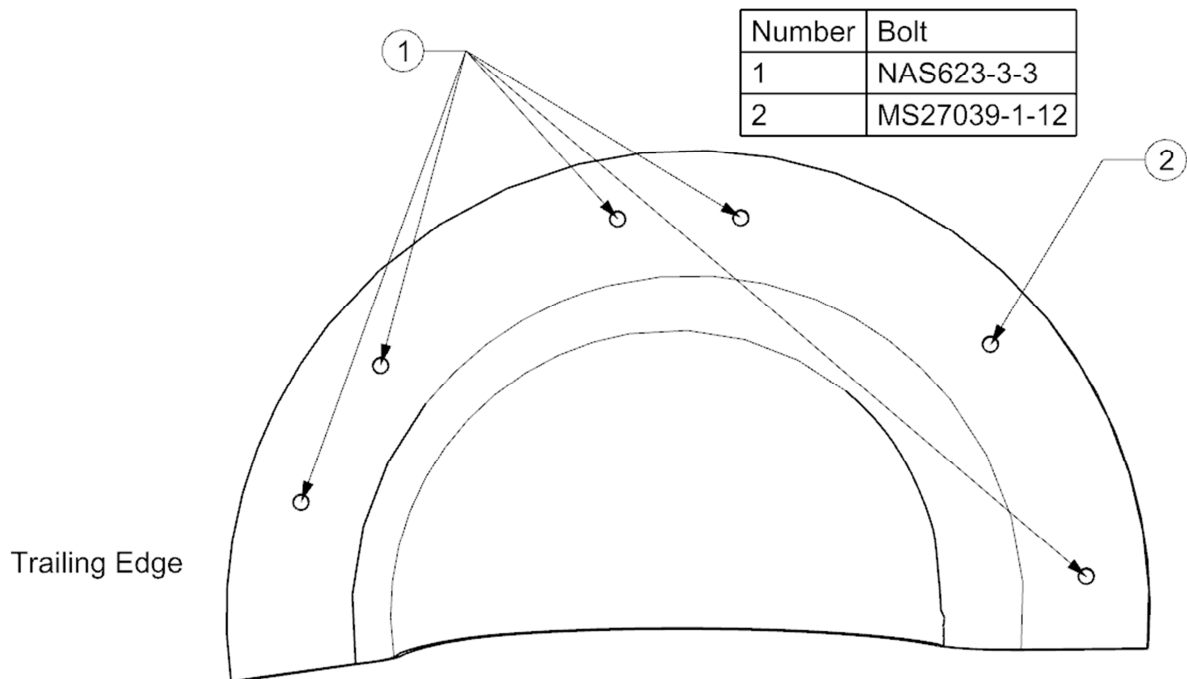
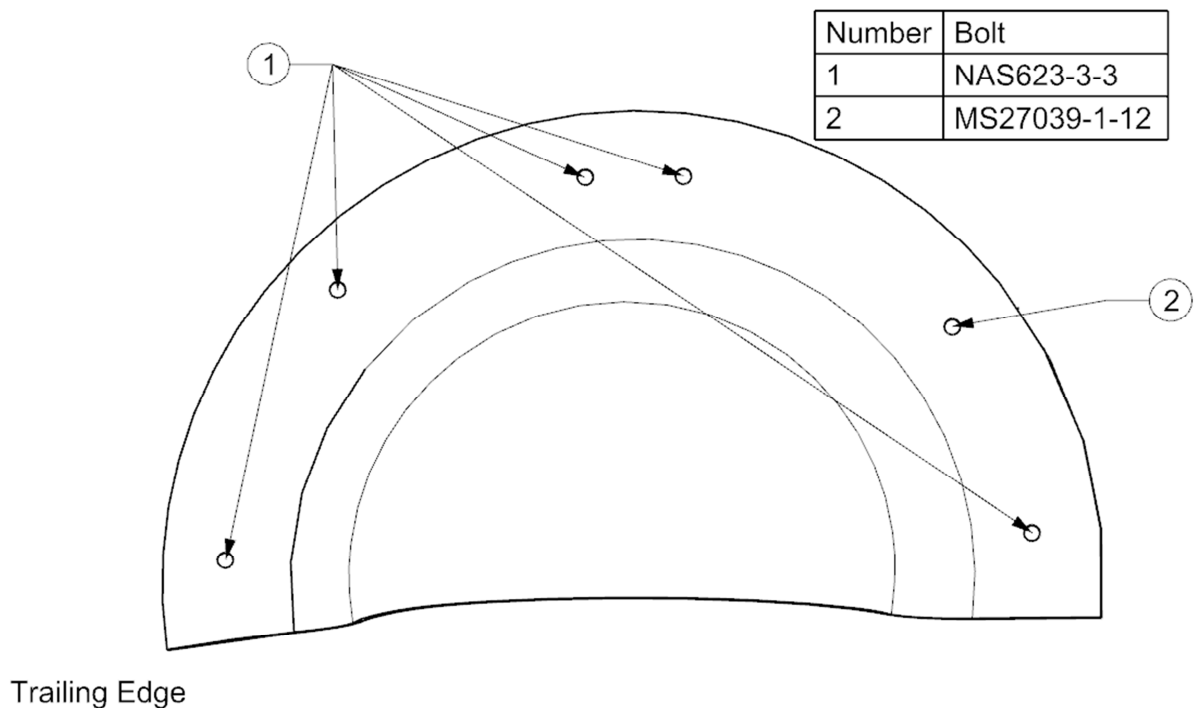
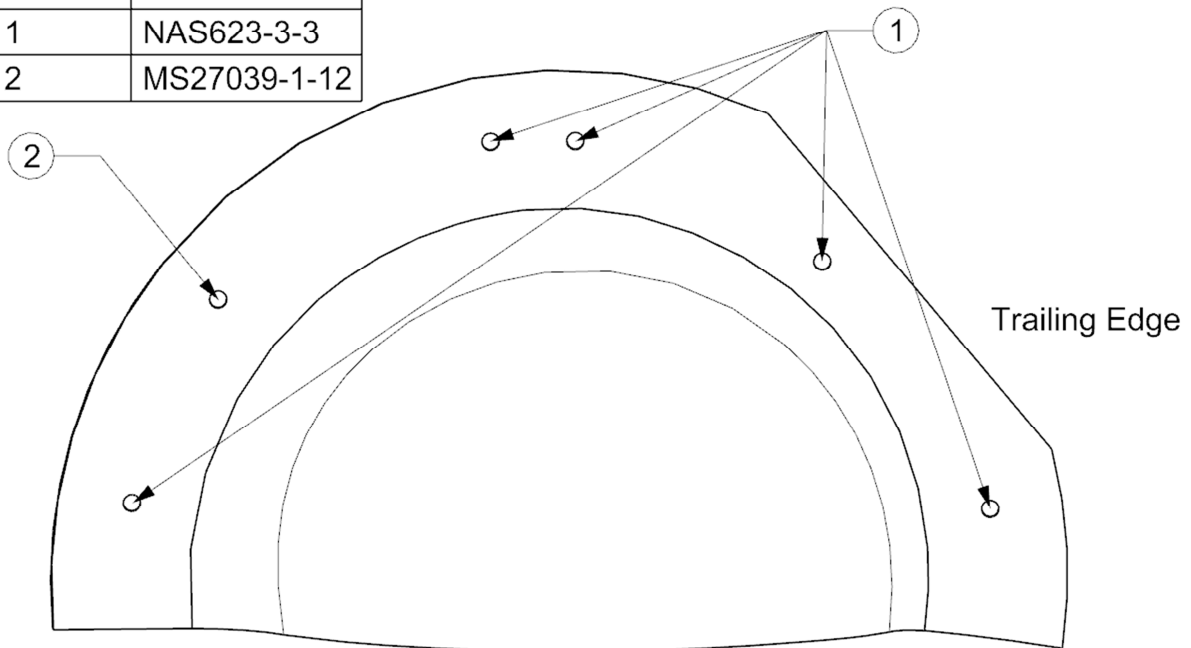

Figure 3-17: Outboard Wing Pylon Aft Lug Cover Fastener Placement
Figure 3-18: Center Wing Pylon Aft Lug Cover Fastener Placement
Figure 3-19: Inboard Wing Pylon Aft Lug Cover Fastener Placement
4. Attach the aft wing pylon lug covers (UWB-ICE-06-104, UWB-ICE-07-104, UWB-ICE-08-104, UWB-ICE-06-105, UWB-ICE-07-105, and UWB-ICE-08-105) to the wing array pylons using MS27039-1-12 and NAS623-3-3 fasteners as per Figure 3-17, Figure 3-18, and Figure 3-19.